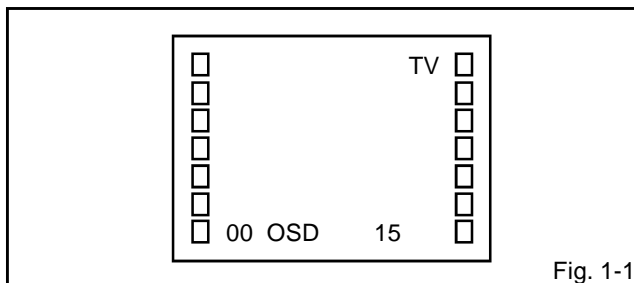

Fig. 1-1
Press the VOL. DOWN button on the set and the Channel button (**9**) on the remote control for more than 1 second to appear the adjustment mode on the screen as shown in **Fig. 1-1**.
4. Activate the adjustment mode display of **Fig. 1-1** and press the channel button (**02**) on the remote control to select "RF.AGC".
2. Activate the adjustment mode display of **Fig. 1-1** and press the channel button (**01**) on the remote control to select "CUT OFF".
4. Activate the adjustment mode display of **Fig. 1-1** and press the channel button (**10**) on the remote control to select "R.BIAS".
4. Activate the adjustment mode display of **Fig. 1-1** and press the channel button (03) on the remote control to select "V.VCO".